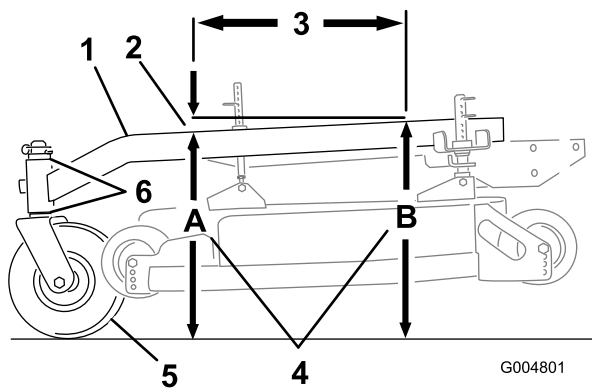

Figure 57
The carrier frame must have a pitch between 1/8 inch (3 mm) to 3/8 inch (9 mm) over the length of 24 inches (61 cm) on the carrier frame (Figure 57).
- Measure out 24 inches (61 cm) on the carrier frame (Figure 57).
- Measure carrier frame height at location **A** (Figure 57).
- Measure carrier frame height at location **B** (Figure 57).
- The height at location **A** must be an 1/8-3/8 inch (3 mm -10 mm) lower than location **B** (Figure 57).
- If the carrier frame is not correct, move caster spacers to make it an 1/8-3/8 inch (3 -10 mm) pitch (Figure 57). Move spacers from top or bottom to make the correct pitch.